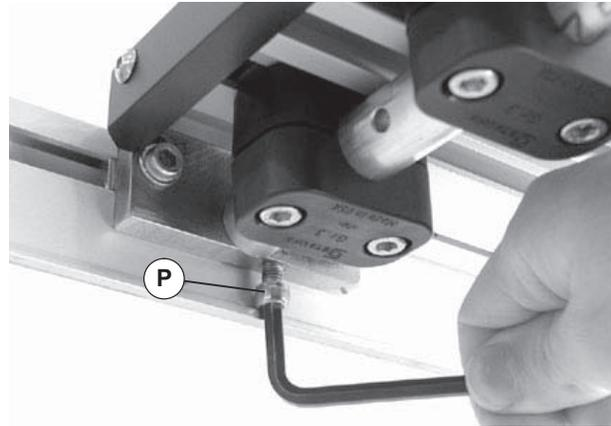

Figure 20
4. To raise table: Turn set screw (Figure 20, item P) clockwise at each support bar.